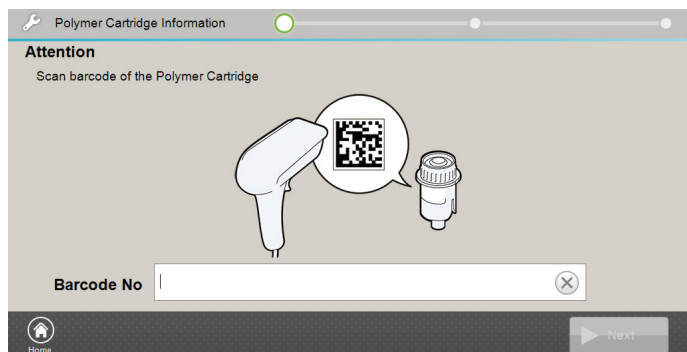

Figure 26. 'Polymer Cartridge barcode scanning' screen.
2. Select **Install** in the footer to start the replacement wizard. This displays the 'Polymer Cartridge Barcode Scanning' screen (Figure 26).